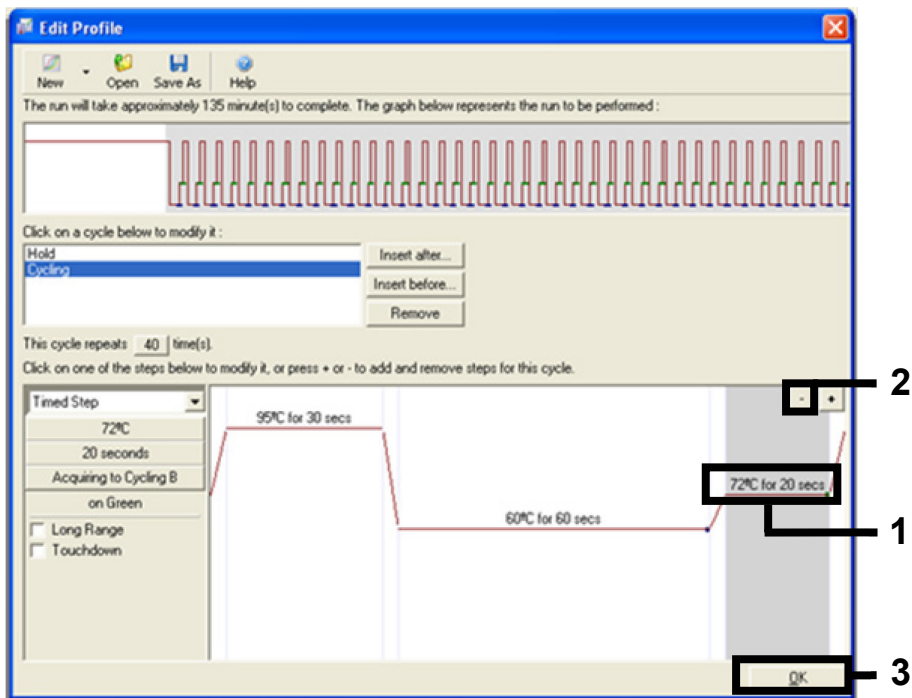

Figure 28. Removal of the extension step (1 = Third step; 2 = Delete button; 3 = "OK" button).
11. Highlight the third step and delete by clicking the "-" button. Click "OK" (Figure 28).